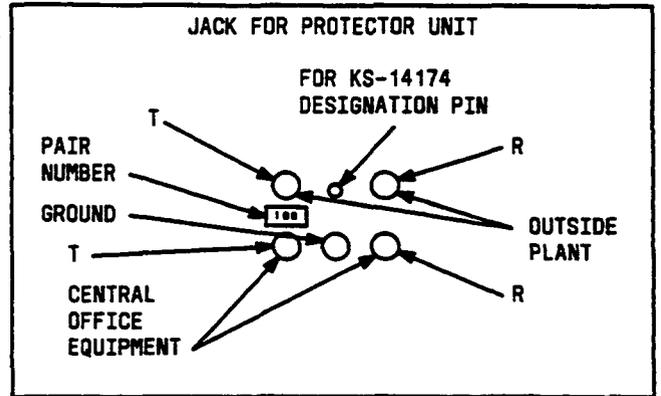

Figure 14—Jack For Protector Unit on 302- and 308-Type Connectors
**Note:** The jacks (receptacles) for the protector units in the 303-, 305-, 307-, 309-, 310-, 310M-, and 311-connectors have reversed tip and ring orientation from the 302- and 308-type connectors (see Figure 14 and 15).